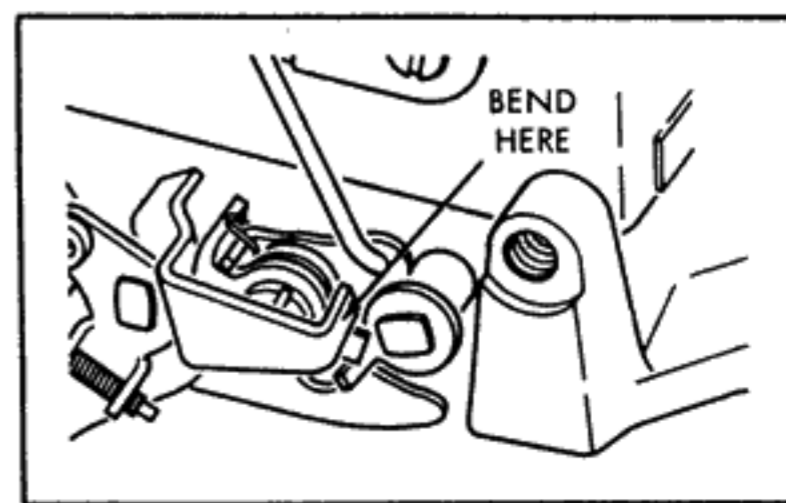

Figure 7
X. UNLOADER ADJUSTMENT. (See figure 7.)